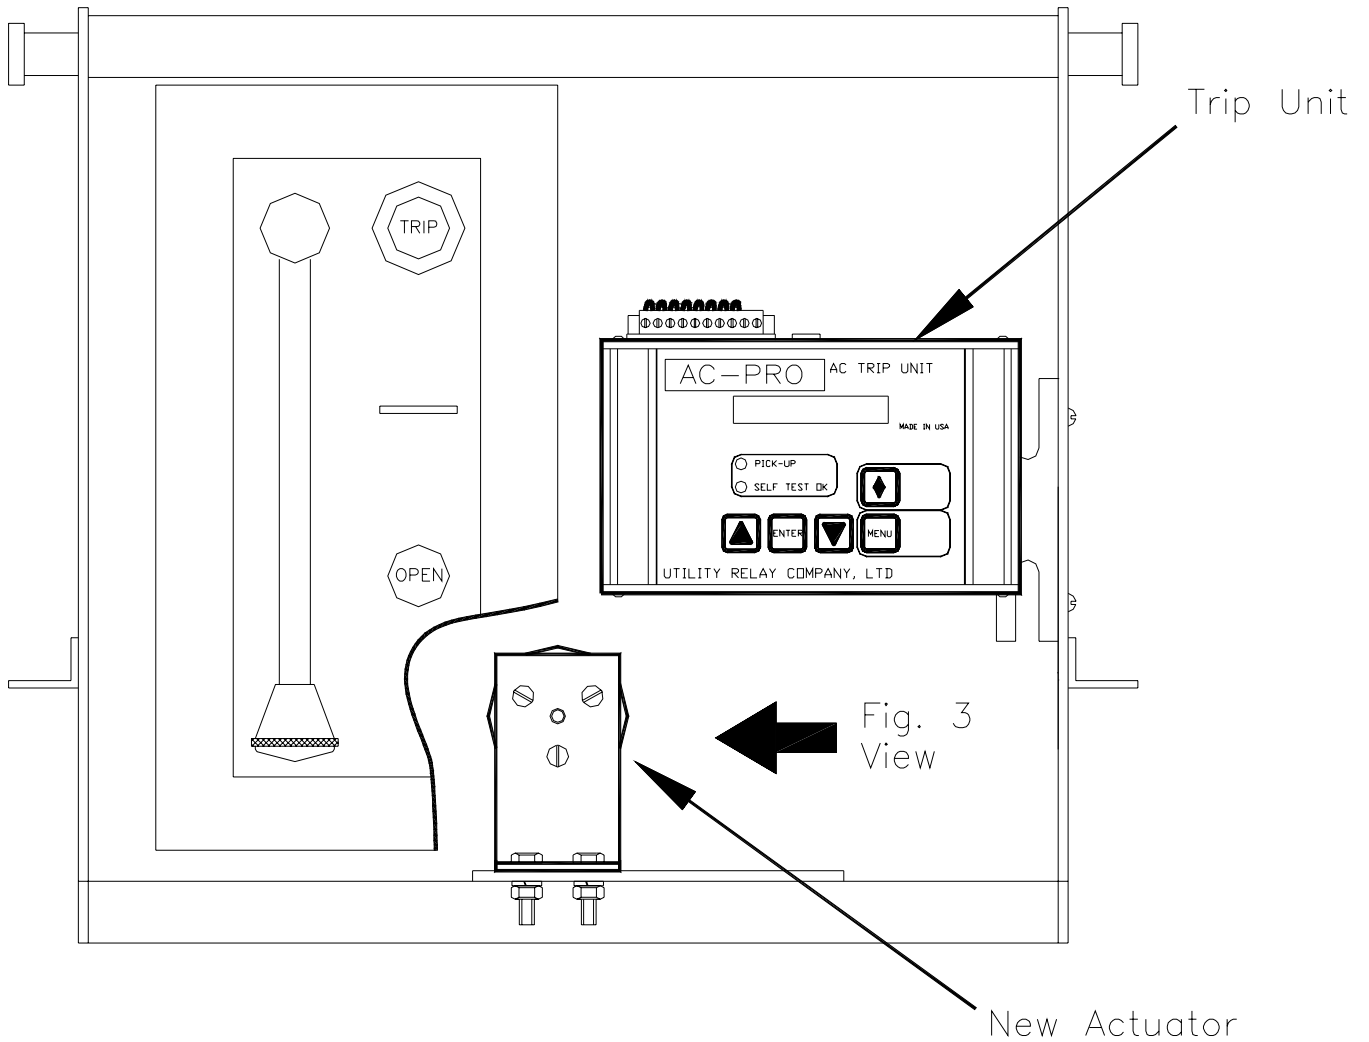

FIGURE 1
See Figure 1 for the following:
- 1) Attach the BR-001 bracket to the back of the trip unit as shown in Figure 1.